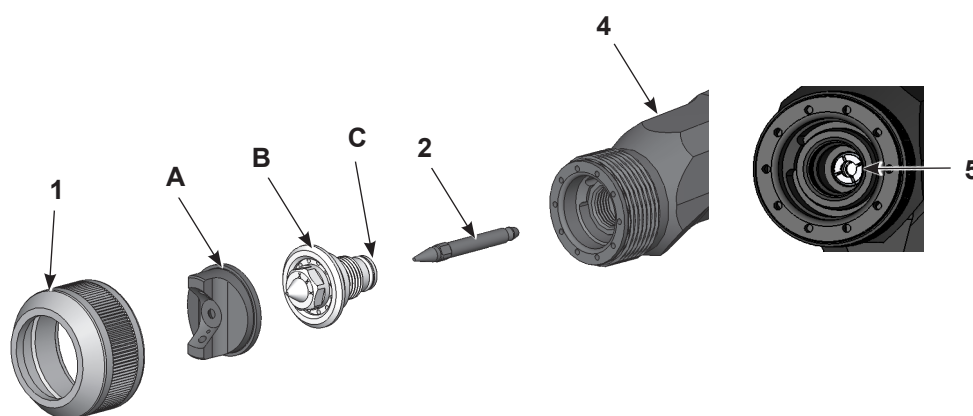

Figure 7-2 Air Gap, Fluid Tip, and Needle Replacement
3. See Figure 7-2. Unscrew the retaining ring (1) and air cap (A) from the extension (4).
4. Pull the trigger and unscrew the fluid tip (B) from the extension.
5. Grasp the needle (2) with your fingers and pull it out of the packing cartridge (5). If necessary, hook the bent needle-nose plier jaws under the corners of the needle flats to remove it. Do not scratch the needle.
7. Make sure the O-ring (C) is installed in the groove in the fluid tip. Lubricate the O-ring with MagnaLube-G or equivalent grease.
9. Install the air cap (A) into the retaining ring and thread the retaining ring onto the extension. Make sure the air cap is centered on the fluid tip. Hold the air cap in the desired position and tighten the retaining ring until it is snug. Do not overtighten the retaining ring.